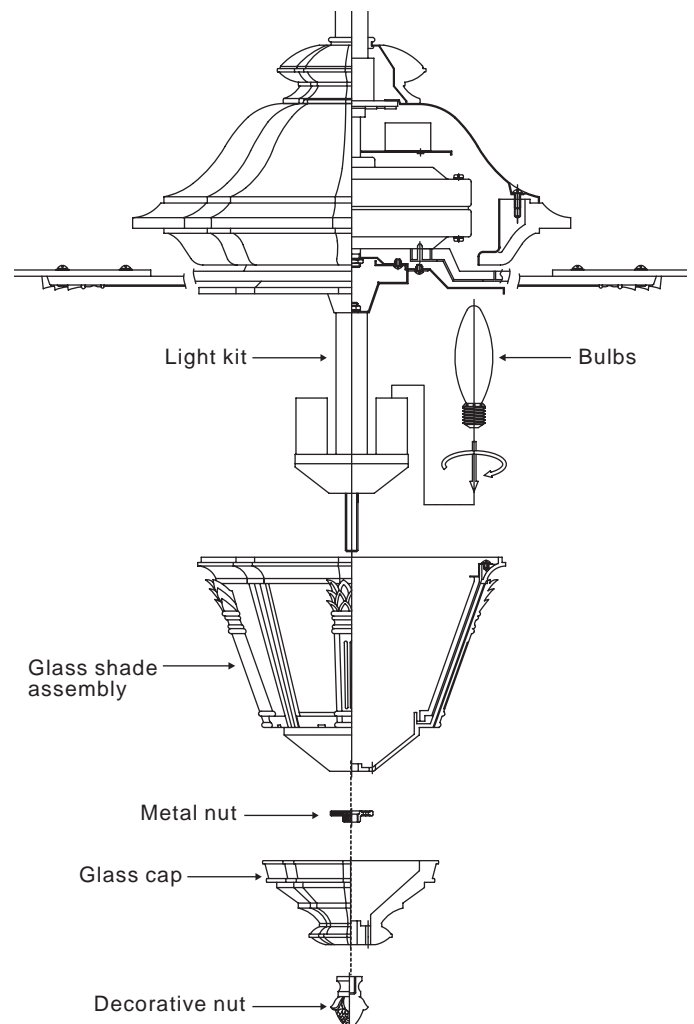

Figure 18
1. Install 3 x 40w candelabra bulbs (not included). (Fig. 18)
2. Remove the decorative nut and metal nut from the light kit. Place glass shade over the light kit stem, secure with the metal nut (rubber side on the top), glass cap and decorative nut. Do not overtighten. (Fig. 18)